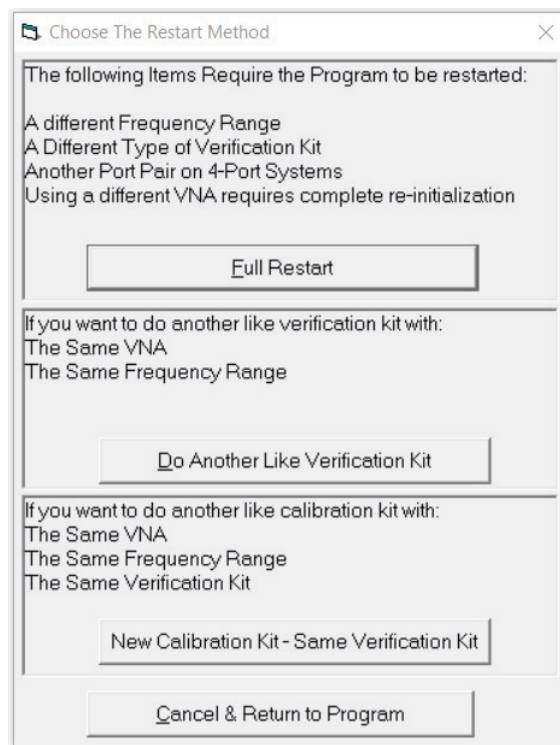

Figure 2-50. Choose The Restart Method Dialog
3. The Choose The Restart Method dialog box appears as shown below in Figure 2-50.